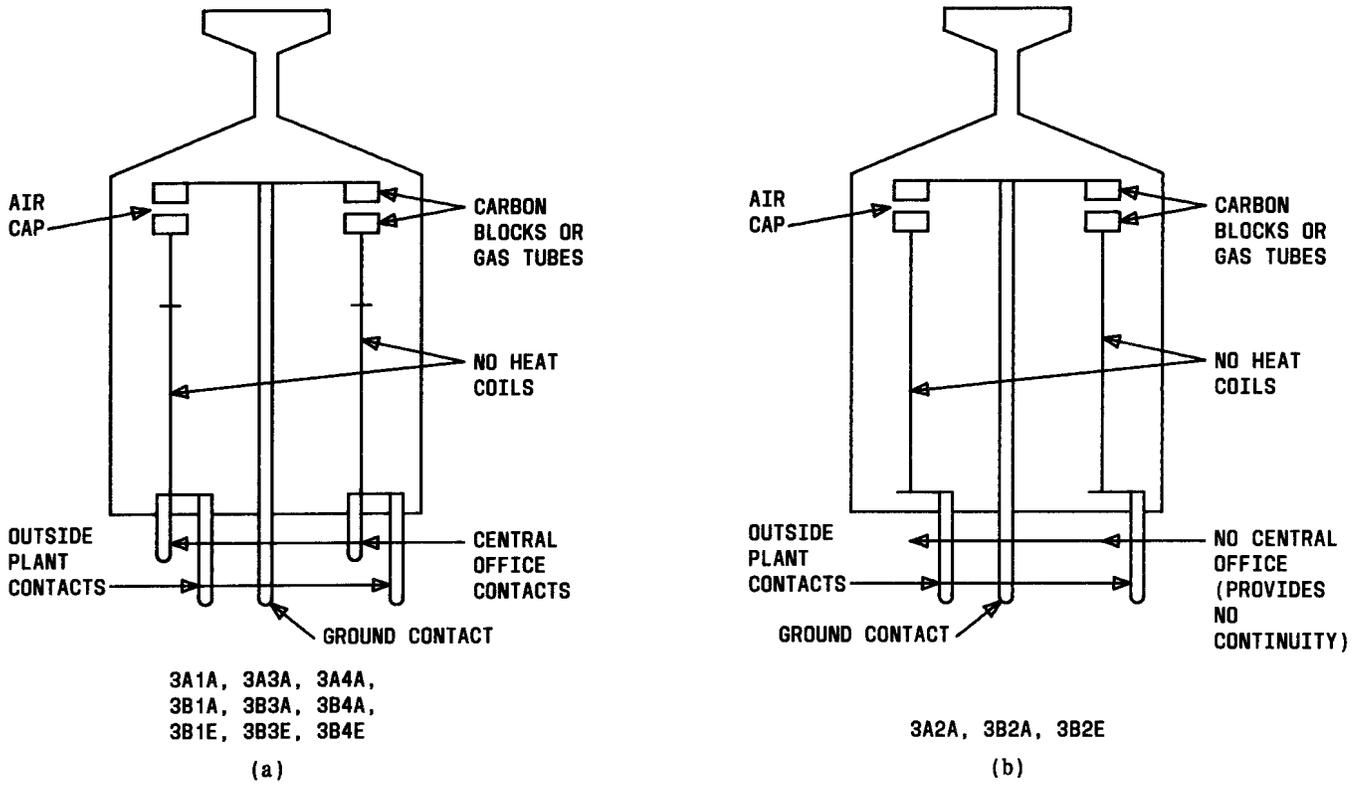

Fig. 6—3-Type Protector Units, Internal Connections
- (d) Change Fig. 6 to three figures (Fig. 6, 7, and 8) showing the internal connections of the 3-, 4-, and 5-type protector units, respectively, and add a reference to these figures in paragraph 1.07
1.07 ♦Internal connections of the 3-, 4-, and 5-type protector units are shown in Fig. 6, 7, and 8, respectively.♦